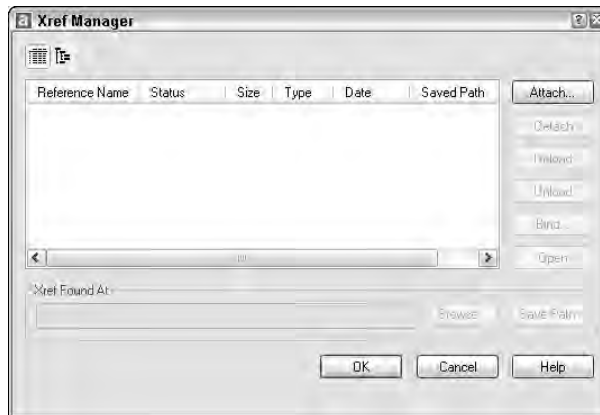

Figure 19-1: The Xref Manager
1.  Choose External Reference from the Reference toolbar (or choose Insert ⇨ Xref Manager) to start the XREF command. AutoCAD opens the Xref Manager, shown in Figure 19-1, your one-stop shopping mall for external references. This dialog box enables you to manage all your xrefs in one place.